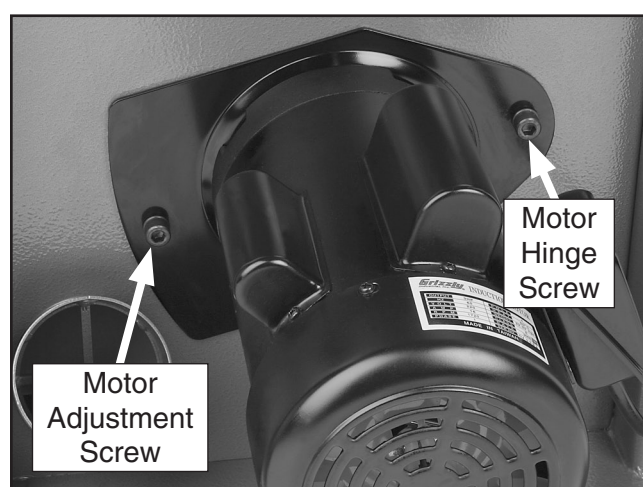

Figure 58. Motor mount screws.
3. Loosen the motor mount screws shown in **Figure 58**.